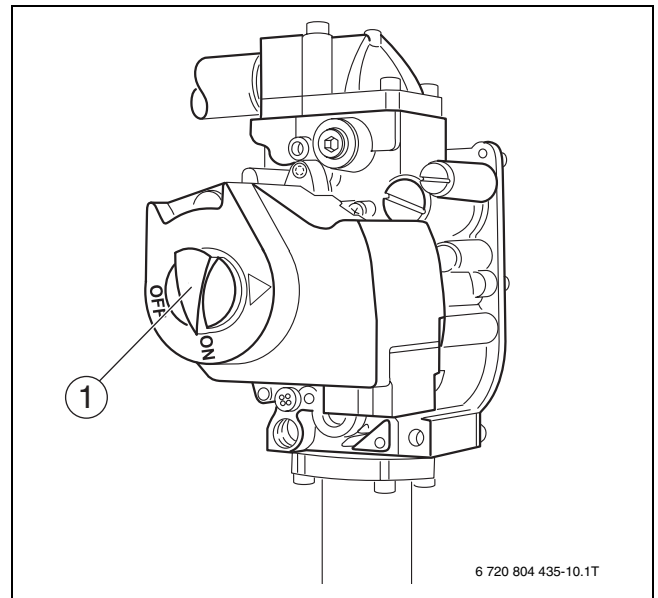

Fig. 10 Gas valve
- ▶ Never use excessive force on the ON/OFF knob (→ figure 10).
- ▶ Turn ON/OFF knob (→ figure 10) counterclockwise to the ON position.